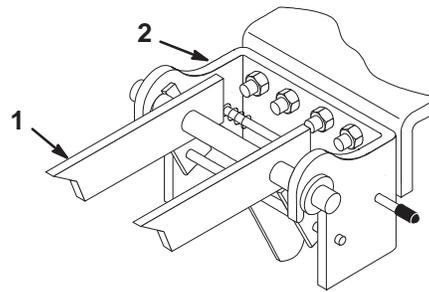

Figure 12
5. Slide the snowthrower mounting frame into the front hitch. Close and lock the front hitch (Fig. 12).